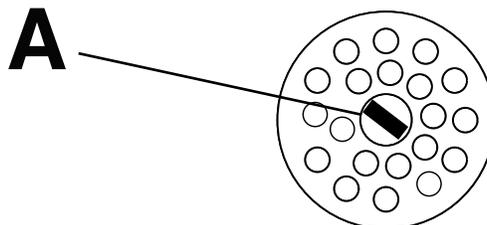

Figure 18 – Cord out switch position
To prevent a low battery condition when the bed is not plugged in, position the cord out switch at the head end of the bed to the off position. If the switch is not positioned as shown (A) and the bed power cord and pendant cord are unplugged, the life of the backup battery will be reduced (Figure 18).